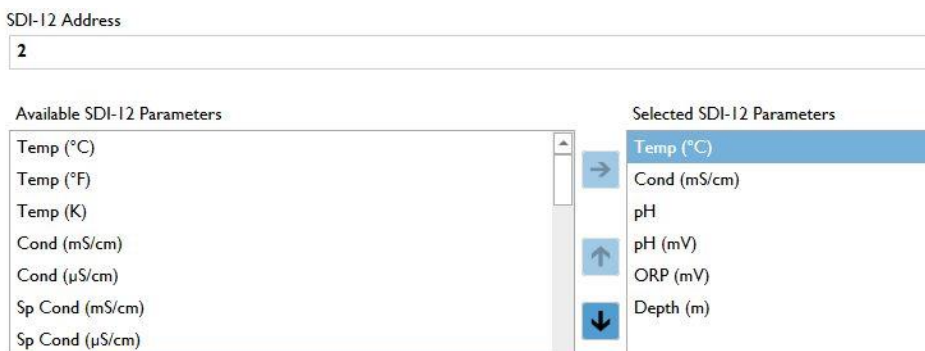

Figure 15. Example of parameter selection in the KOR software for DCP output.
- In the DCP section, you should select the desired output parameters. Even though it is called ‘SDI-12’, it also applies to the RS232 output of the DCP. The SDI-12 address is not relevant. The order of the parameters is also not relevant. Make sure you selected the right parameters in the desired unit (like mS/cm or µS/cm). See Figure 15.